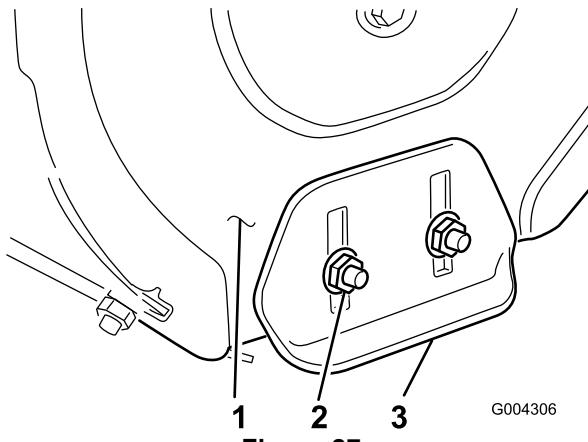

Figure 27
3. Loosen the 4 flange nuts that secure both skids to the auger side plates (Figure 27) until the skids slide up and down easily.
- 8. Tighten the 4 flange nuts that secure both skids to the auger side plates (Figure 27).